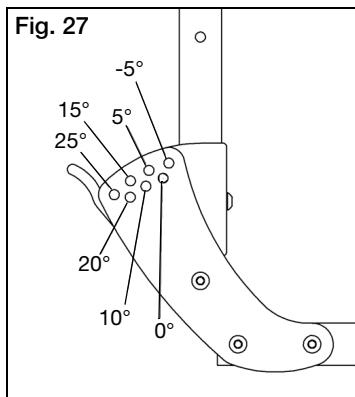

Fig. 27
- Rotate backrest to desired angle. Each hole represents 5° of rotation. The upper row of holes correspond to -5°, 5°, 15° and 25° and the lower row of holes correspond to 0° (vertical), 10° and 20° (Fig. 27).